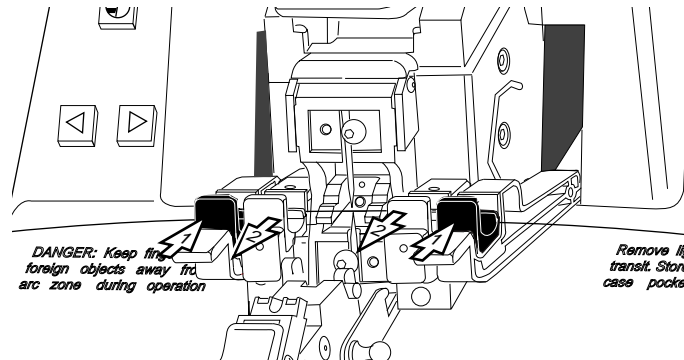

Figure 42
- a) Close the transfer arm clamps (# 1 arrows) onto the spliced fiber and then open the fiber coating clamps (# 2 arrows) (Figure 42).